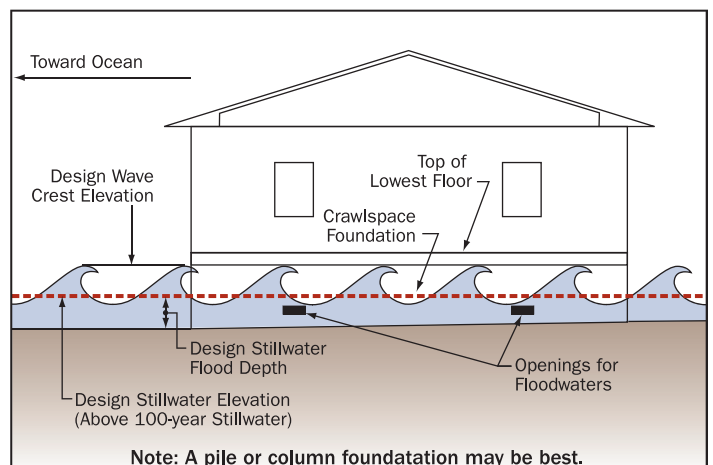

Figure 8. Recommended construction in Zones B, C, and X.
- Outside the SFHA (in flood Zones B, C, and X), adopt flood-resistant design and construction practices if historical evidence or a review of the available flood data shows the building could be damaged by a flood more severe than the base flood (see Figure 8).